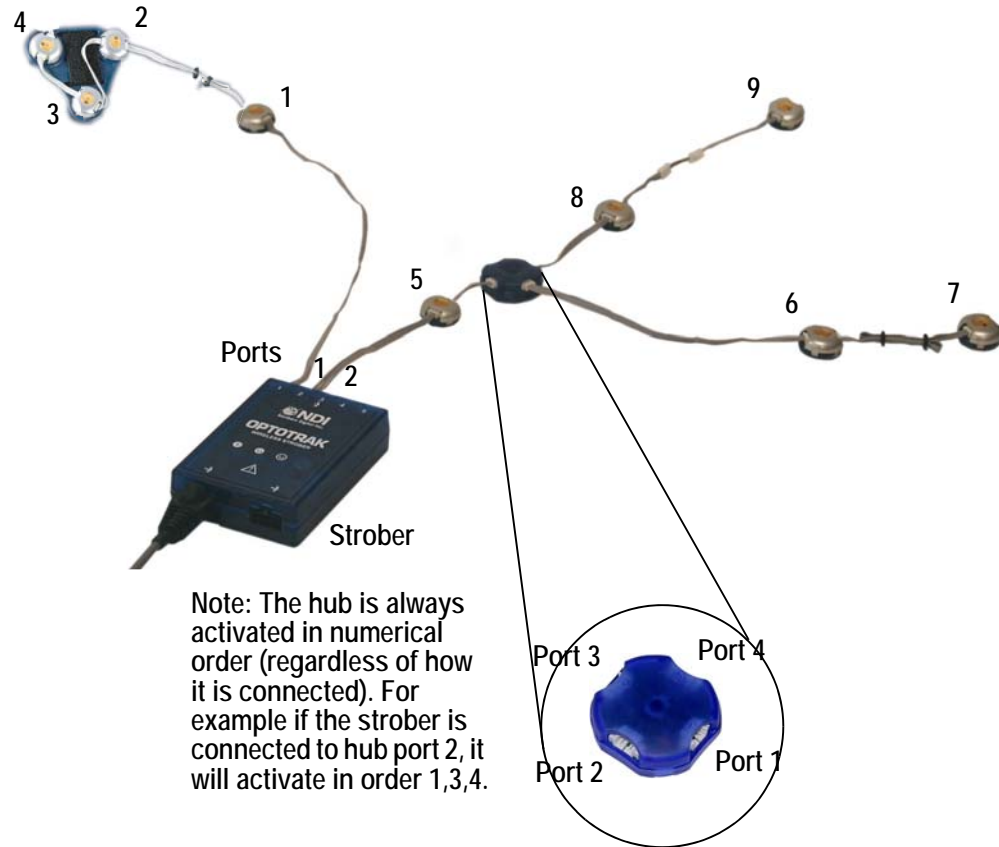

Figure 11-8 Rigid Body Start Marker
3. Connect the rigid body into the smart marker chain as desired. For an example, refer to Figure 11-8 on page 78.
In order for the system to know which markers comprise the rigid body you must define the first (or start) marker on the rigid body. In the example shown in Figure 11-8 on page 78, the start marker is #2 in the chain.